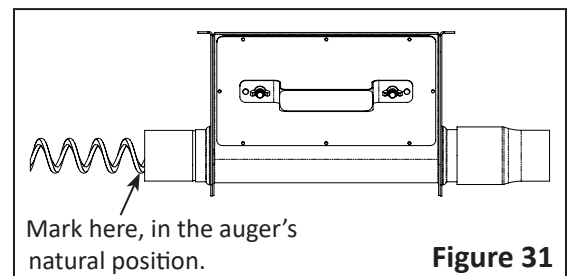

Figure 31
4. From the boot end, pull and release the free end of the auger a few times. This will ensure the auger is in its natural position. Place a mark at the end of the boot as shown in Figure 31.